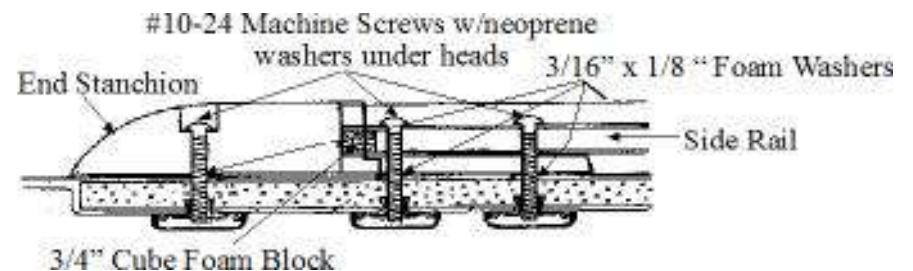

Fig. 2
5. Assemble propeller Tee nuts and retaining washers with flange side of washer down toward floor of truck bed and barrel of tee nut toward roof (Fig. 2). Press barrel of Tee nuts into 9/32" holes until flush with roof.